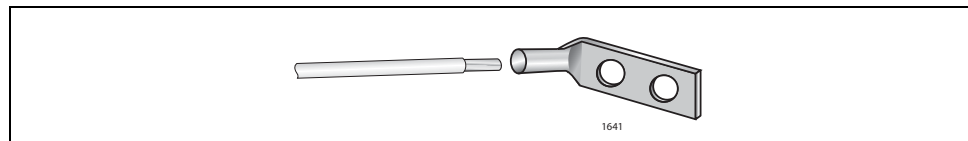

Figure 10. Connecting the Wire to the Ground Lug
1. Use a crimping tool to affix the ground lug to one end of the 12 AWG stranded or 14 AWG solid ground wire, as shown in Figure 10.